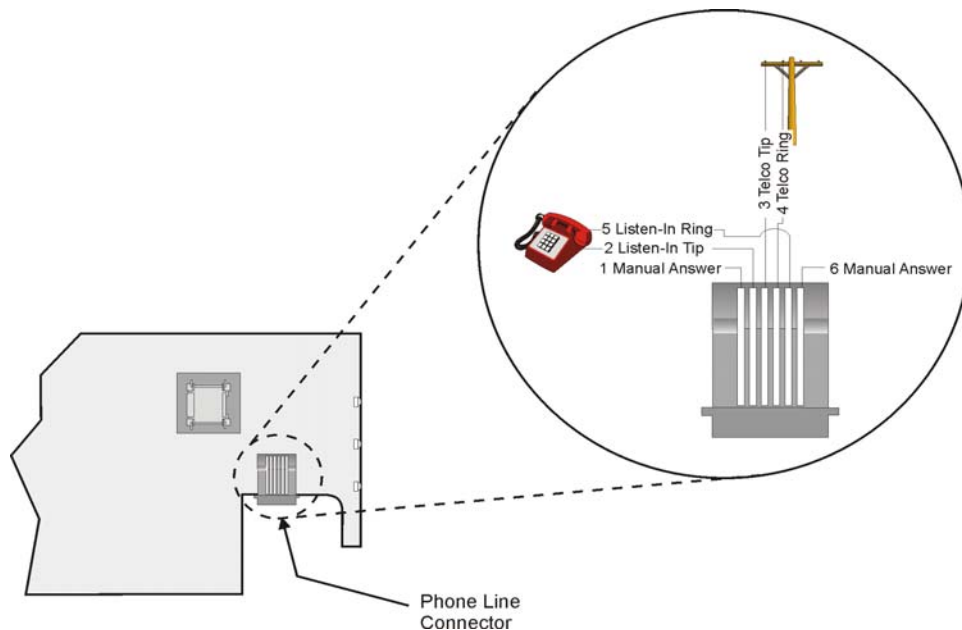

Figure 4-25 Phone Connector Pin-Out and Listen-in Wiring Diagram
3. Pick up the telephone the listen-in call is on. See Figure 4-25 for a diagram of how the listen-in phone should be connected (in parallel) with the phone line of the line card.